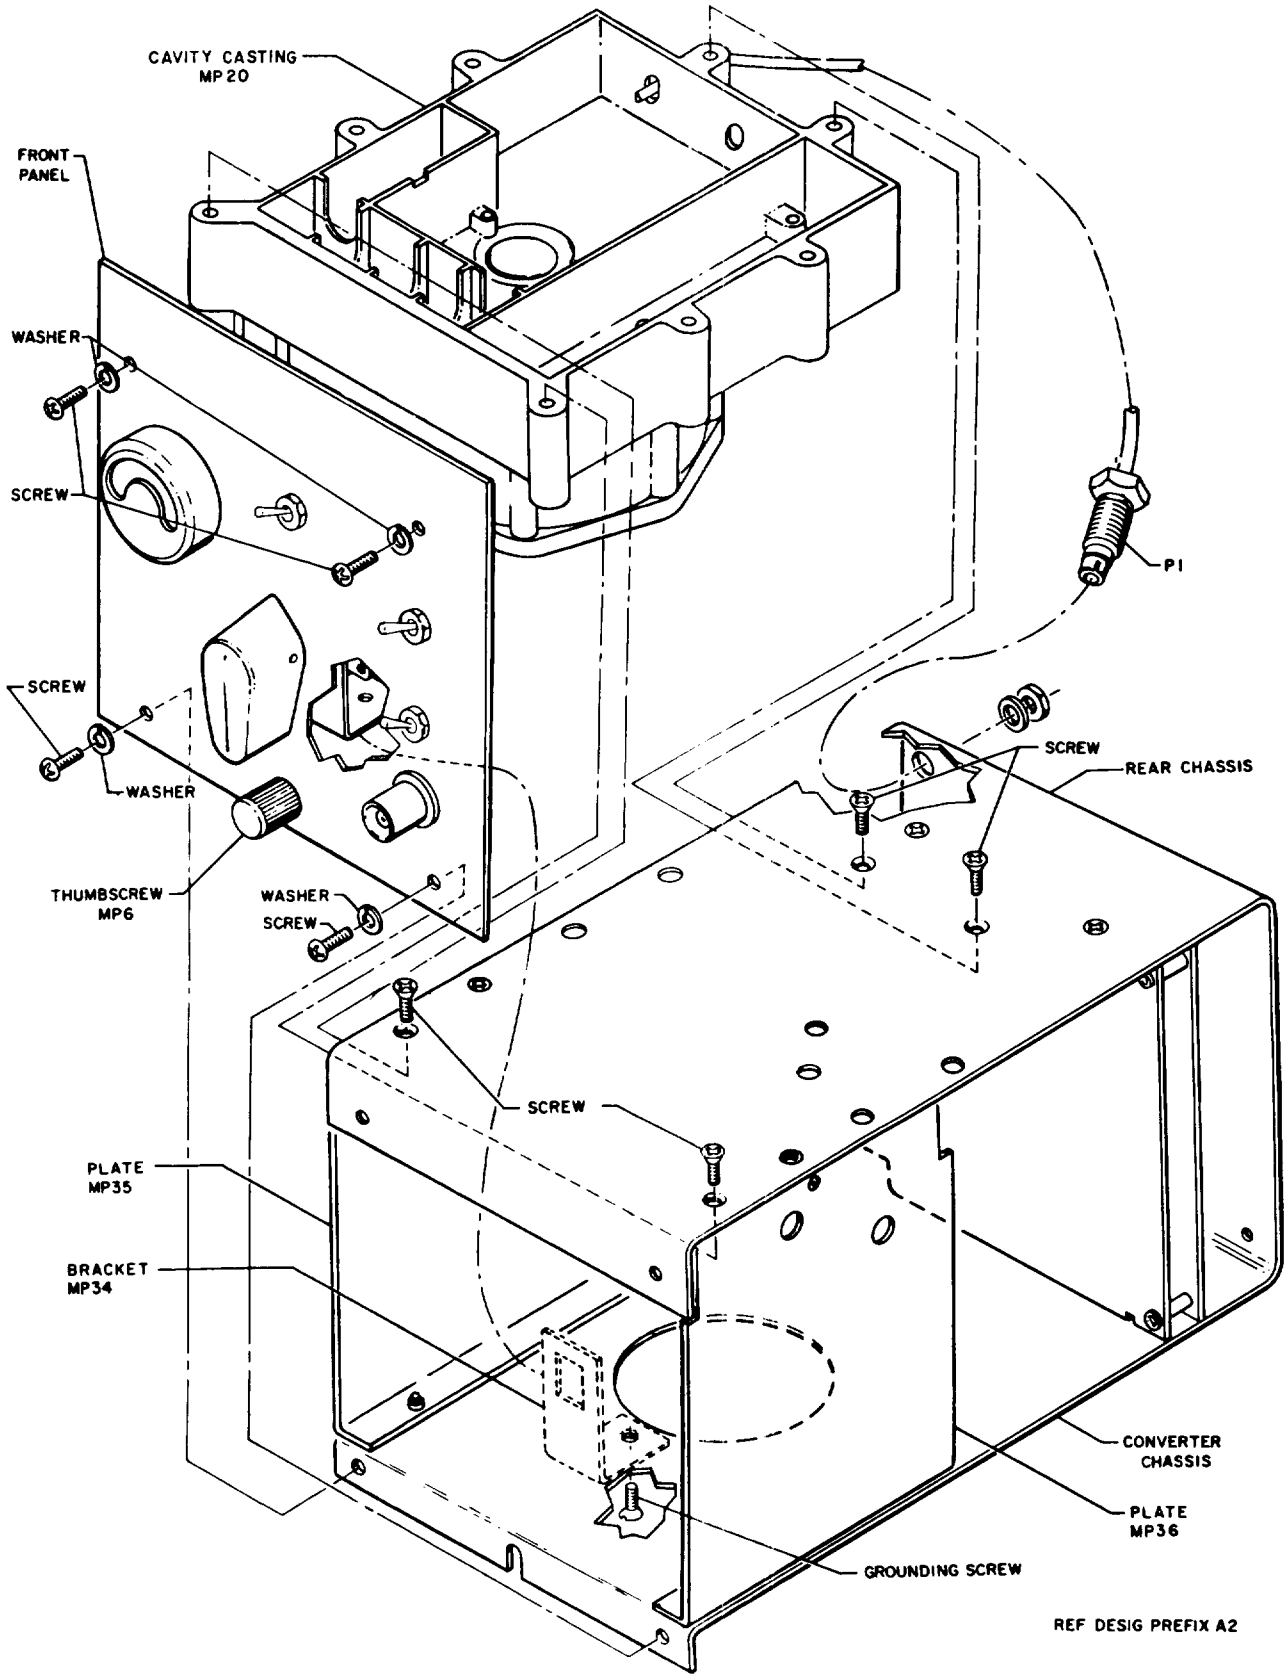
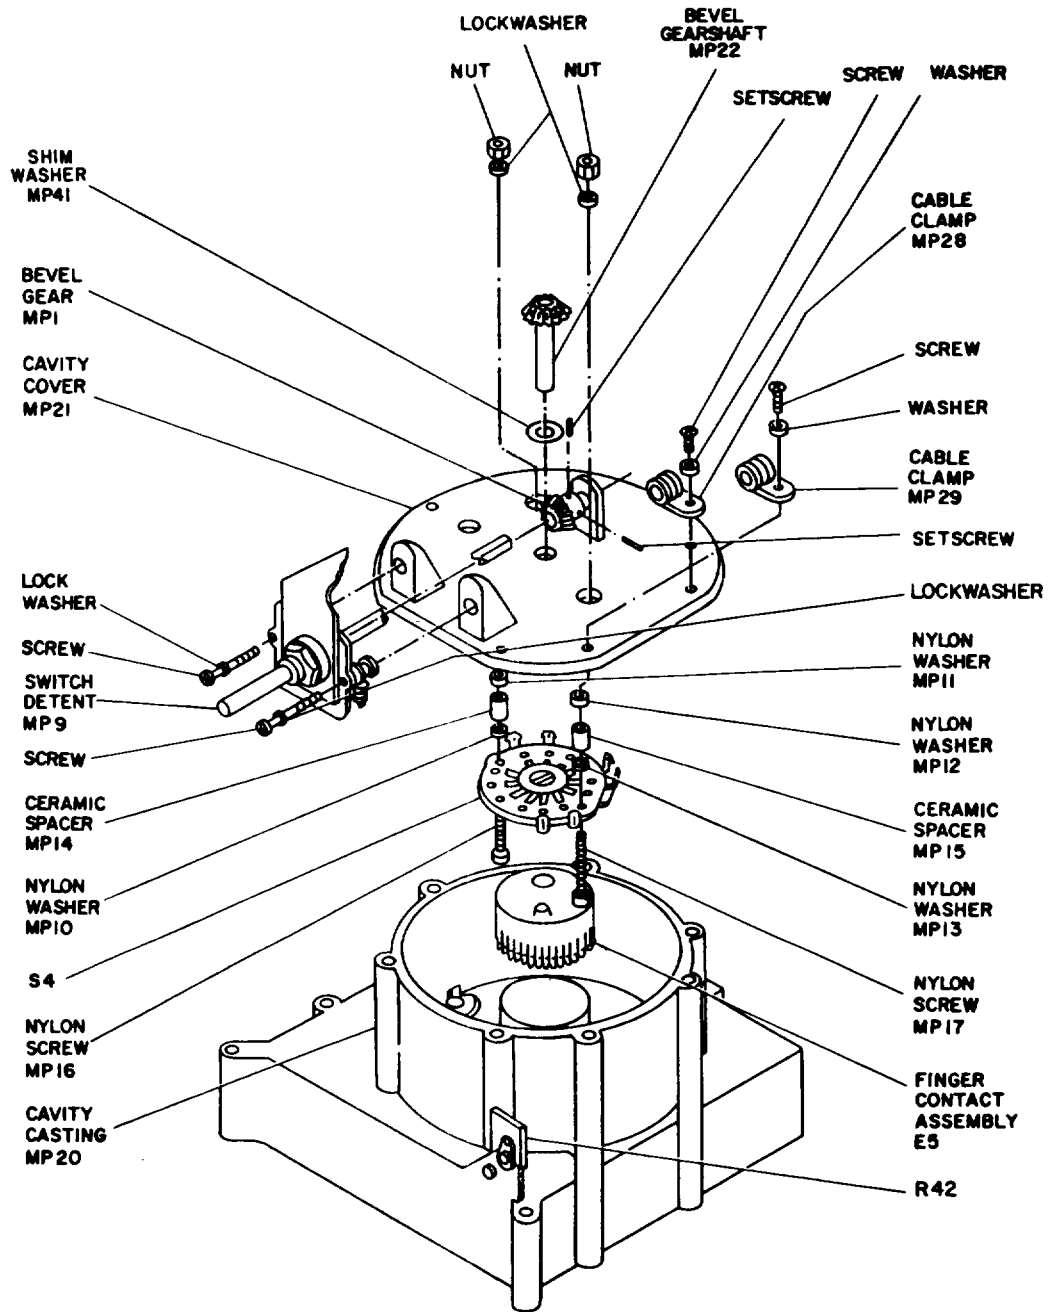
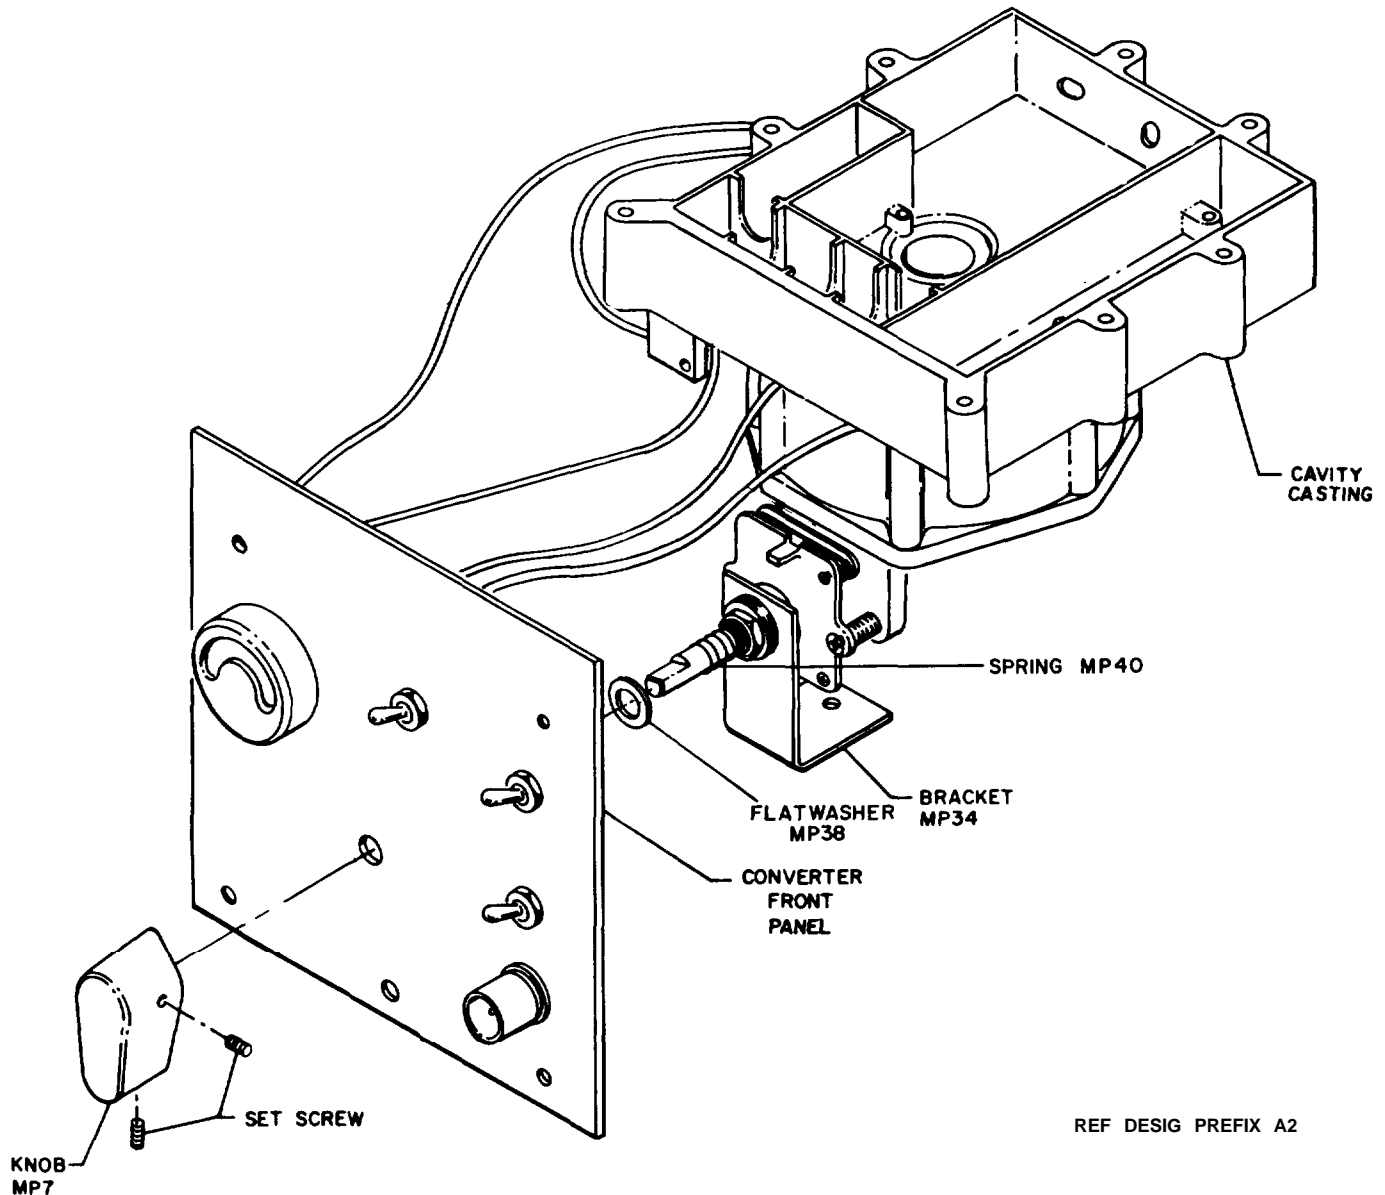

Figure 5-18. Electronic Frequency Converter A2 Exploded View, Front and Rear Chassis Separated
Figure 5-19. Cavity Casting, Exploded View
Figure 5-22. Electronic Frequency Converter A2, Front Chassis, Exploded View
(1) Set counter POWER switch to OFF.
(2) Loosen the thumbscrew at the bottom of the converter and slide the converter out of the counter.
(3) Remove and save the four screws and washers from the front panel (figure 5-18).
(4) Remove and save three screws that fasten plate A2MP35 from the chassis and remove plate.
(5) Remove and save thumbscrew from front panel.
(6) Remove and save eight screws from top of converter and grounding screw, nut, and washer.
(7) Remove and save the outside nut and washer of connector A2P1; then slide it out of its mounting hole so that the attached coaxial cable is free to move with the cavity casting.
(8) Separate the converter chassis from the front panel and cavity casting as follows: Swing the front panel slowly clockwise until the cavity casting is mechanically free of the converter chassis and connected only by the three leads. Do not disconnect these leads.
paragraph 5-5s. Next remove and save the seven screws and washers from the cavity cover A2MP21 (figure 5-19); then lift the cavity casting up and away.
(1) Perform the procedure of paragraph 5-5s.
(2) Set the mixing frequency selector switch to 100.
(3) Loosen the two setscrews on the knob A2MP7 and slide the knob off the shaft (figure 5-22). The front panel may slip forward from spring tension of A2MP40.
(4) Slide the front panel slowly forward until it clears the shaft; then tilt it down to expose the switch detent A2MP9. Remove and save flat washer A2MP38 and spring A2MP40.
(5) Remove and save the two screws and
washers that fasten the switch detent to the cavity cover (figure 5-19).
(1) Place the cavity cover A2MP21 (figure 5-19) over the cavity casting A2MP20; be sure that the finger contact assemble A2E5 of the cavity cover mates smoothly with the projection in the cavity casting.
(2) Align the mounting holes; then secure the cavity cover to the cavity casting by means of the seven screws and washers.
(3) Swing the converter front panel upwards toward the front of the shaft, and slide the shaft through the mounting hole.
(4) Place the knob A2MP7 on the shaft (figure 5-22) and temporarily tighten one of the set-screws on the knob.
(5) Swing the cavity casting along with the converter front panel towards the converter chassis, and align the mounting holes of the converter front panel with the mounting holes on the front of the converter chassis.
(6) Replace the four screws and washers on the converter front panel (figure 5-18). Do not tighten the screws.
(7) Replace the eight screws on top of the converter chassis.
(8) Replace the thumbscrew A2MP6 at the bottom of the converter chassis.
(9) Secure bracket A2MP34 to the bottom of the converter chassis by means of the grounding screw, net and washer.
(10) Pass connctor A2P1 (attached to the end of the coaxial cable) through the mounting hole in the converter chassis, and mount it to the converter chassis by means of the nut and washer.
(11) Loosen the setscrew on the knob tightened in step (4), turn the knob so that it points to the 100 marking on the converter front panel, and tighten both setscrews. Fasten plate A2MP35 with three screws.